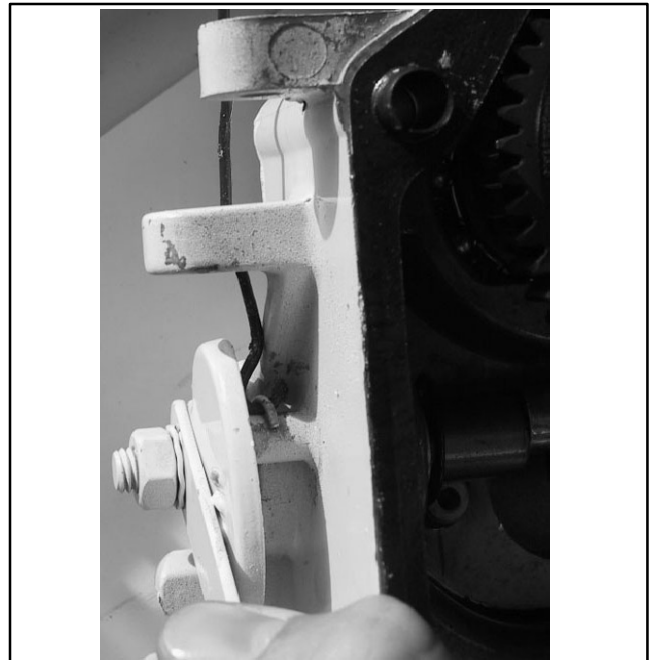

Figure 10-76 Gear Housing Boss
9. Use a looping wire to move and to hook the other end leg of the outer spring at the gear housing boss. See Figure 10-76.